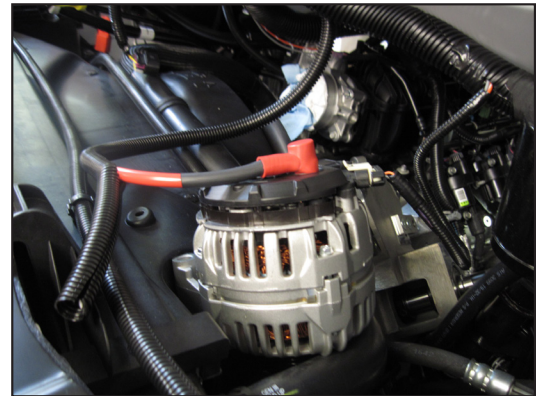

Figure 26. Attach New Battery Cable
12. Attach the new battery cable extension lead provided in this kit to the back of the alternator (see Figure 26). The end with the red boot will attach to the alternator stud (see Figure 26).